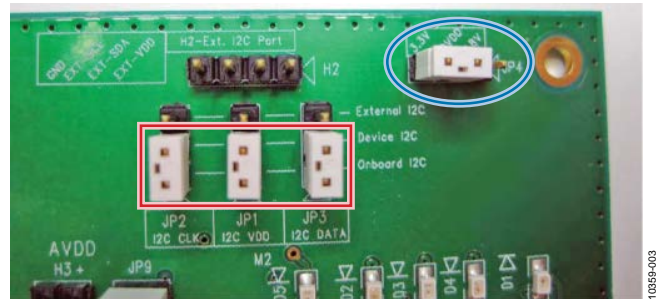

Figure 3. Jumpers as Configured for On-Board I²C Operation
If an external I²C source is to be used, place the JP1, JP2, and JP3 jumpers such that they connect the device I²C lines to the external I²C lines. Otherwise, they should connect the device I²C lines to the on-board I²C lines, as shown in the red rectangular area of Figure 3. If an external I²C is used, an external I²C source can be attached to H2, following the silkscreen labels displayed on the board.
3. Connect JP4 in the 3.3 V location as shown in the blue circled area of Figure 3. The purpose of this is to power the Cypress USB controller to establish communication between the software and the board.
11. After a successful installation, the **SSM2804** software recognizes a connection from the PC to the **SSM2804** evaluation board. There is no need to adjust the jumper positions of JP1, JP2, and JP3, but they should be connected as shown in Figure 3.